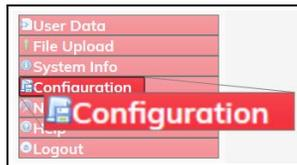

Figure 299: Configuration link
4. On the **Menu** list, click the **Configuration** link. Figure 299